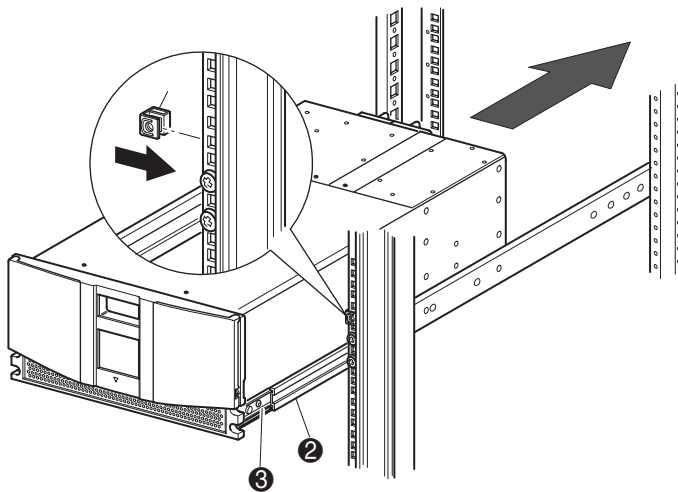

Figure 2-4. Installing the library
3. Install the two slide-on cage nuts, aligned two rack units above the rail bracket screws, on each of the front storage cabinet vertical rails (see Figure 2-4).
5. Carefully insert the library's inner slide rails into the extended intermediate slide rails (see Figure 2-4).